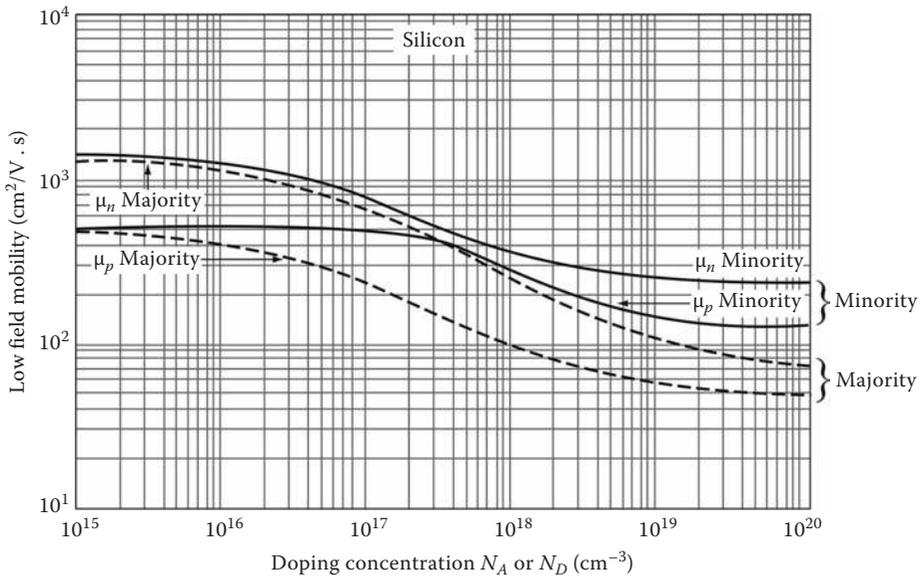

FIGURE 5.23 Low-field electron and hole mobilities as functions of doping concentration at 300 K.
The mobility is very useful because: (1) it collapses an enormously complex piece of carrier-scattering physics into a single parameter (much like the effective mass) and (2) it can fairly easily be measured. Figure 5.23 shows electron and hole mobility data at 300 K as functions of doping. As can be seen, for silicon, electrons are faster than holes, all else being equal, and this will have important circuit design implications, as we will see.